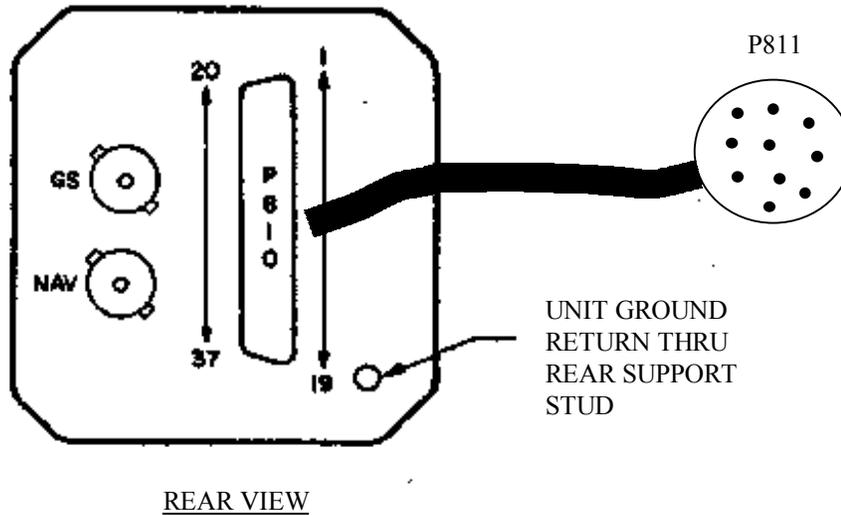

FIGURE 2-6. BNC CABLE CONNECTOR
BNC connectors are located on the rear of the NAV. When attaching antenna cables, refer to Figure 2-6 for connector identification.
Antenna connections to the NAV122D Receiver are shown in Figure 2-6.
1. Strip wire as shown in Figure 2-6. Maximum wire size is No. 20AWG.